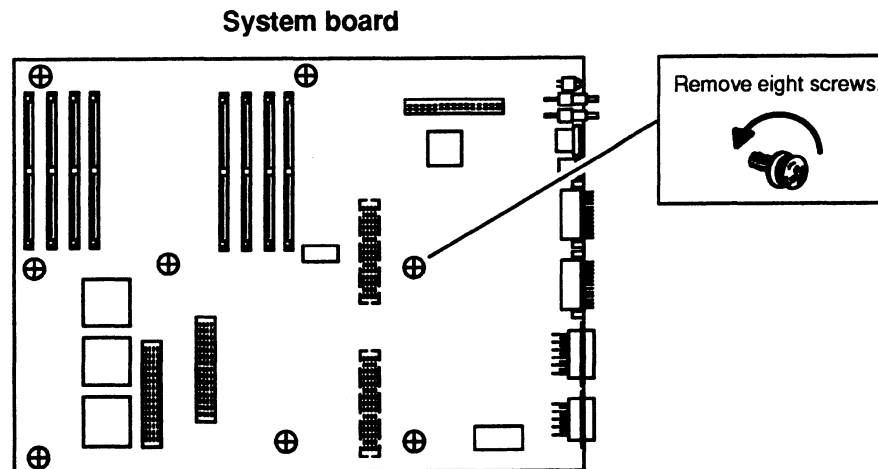

Figure 5-4 Removing the Screws Securing the System Board to the Computer Unit
4. Using the medium Phillips screwdriver, remove the eight screws, shown in Figure 5-4, that secure the system board to the computer unit.